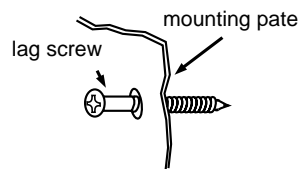

Figure 25
4. Locate the stud holes (3/16") and insert the lag screws through the mounting plate and into the holes. See Figure 25.